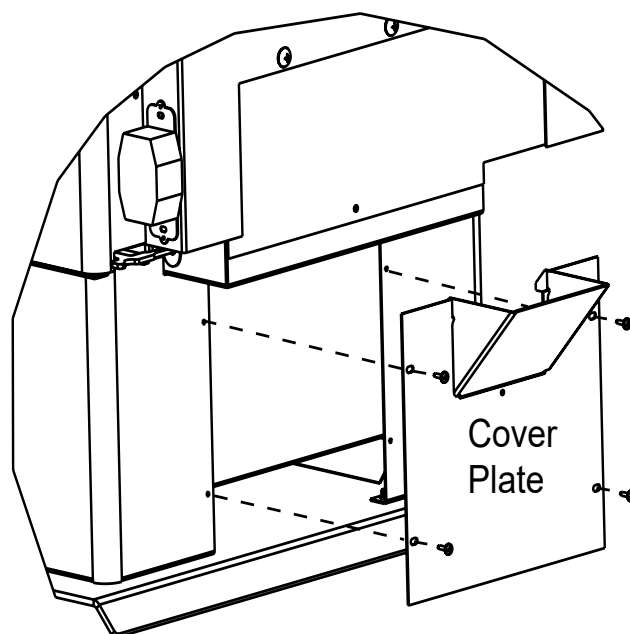

Figure 20.3
**NOTE:** If installing a floor installation of an outside air kit on a Step Top model with a pedestal assembly you must attach the enclosed cover plate with 4 screws to the back of the appliance. Other wise you may discard this piece (**Figure 20.3 on page 20**).